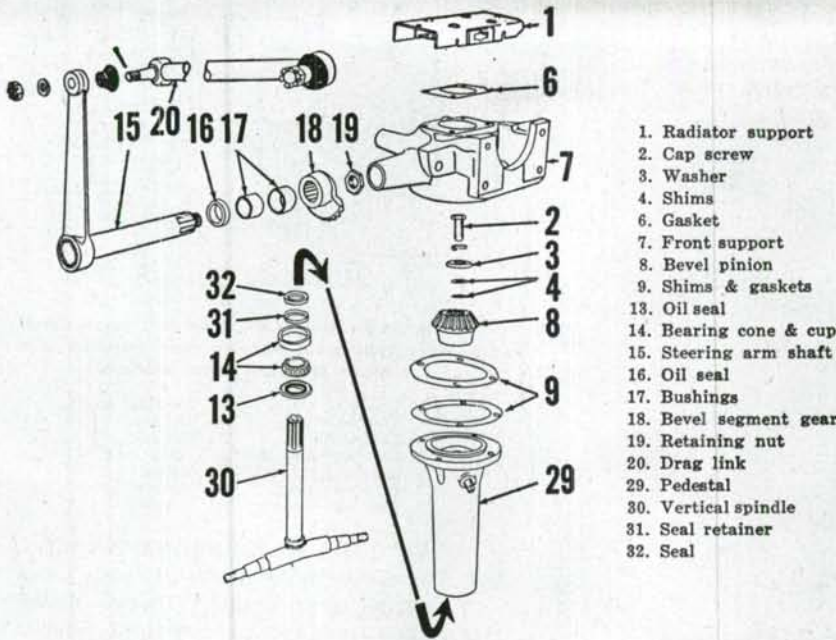

Fig. AC3—Models C and CA dual wheel tricycle version front support, pedestal, and front steering gear assembly.
1B. C-CA DUAL FRONT WHEELS. To adjust vertical spindle bearings, vary the shims (4—Fig. AC3) under cap screw (2) at top of shaft. To gain access to shims, remove the pedestal unit from the front support.